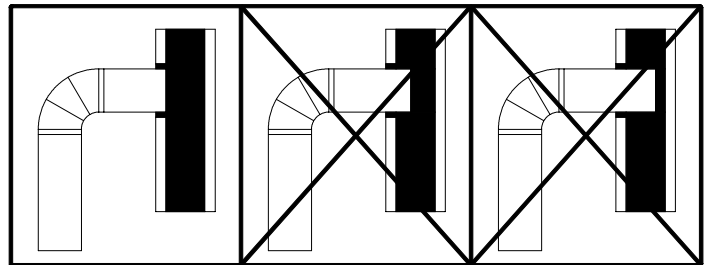

FIG. 6
4. The chimney connector must not extend into the chimney flue (See Fig. 6).